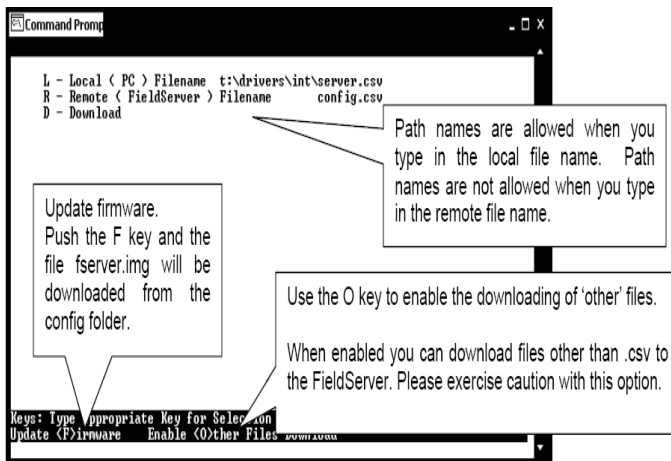

Figure 22: Download new Config.csv file
17.) At the next screen, (**Figure 22**), type <D> again.